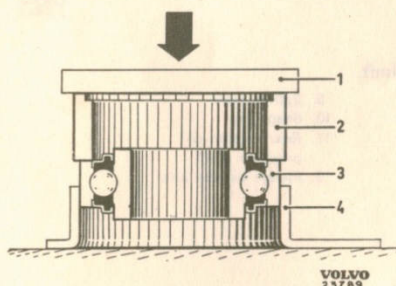

Fig. 4-3. Fitting the center bearing
2. Pull out the retainer with the center bearing (7) to the rear. Press the center bearing out of the retainer with a suitable tool. Press the new bearing into the retainer with the help of ring SVO 4801, see Fig. 4-3. If the diameter of the press tool is less than the hole in the ring, lay a plate (1, Fig. 4-3) over the ring.
1. Press the center bearing (7) in the retainer by using the ring SVO 4081, see Fig. 4-3. Fit the cover plate, center bearing, thrust washer and lock washer on the forward part of the propeller shaft.